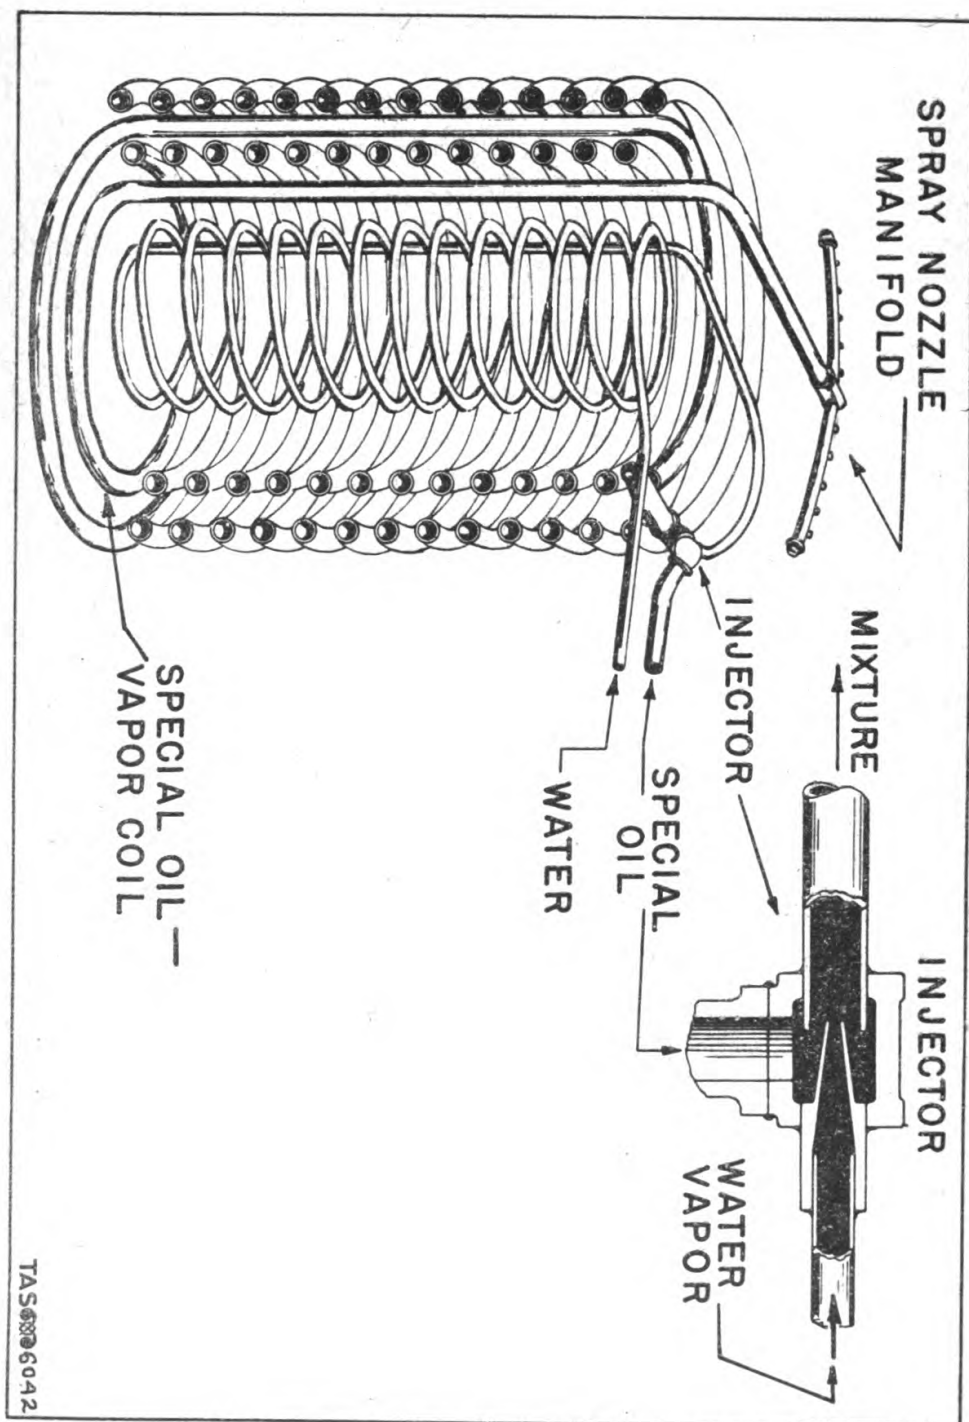

Fig. 42. Coil Assembly.
e. Coil assembly. The coil assembly parts are shown in figure 42. They are:
(1) 33 feet of 1/2-inch piping constituting the water coil.
(2) 140 feet of 1-inch piping constituting the special oil-vapor coil.